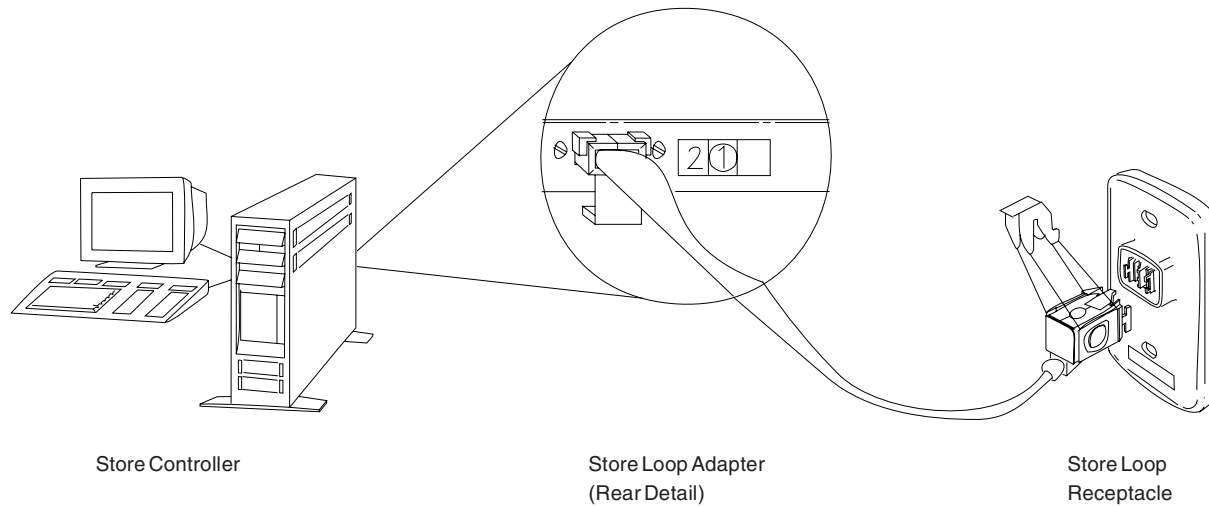
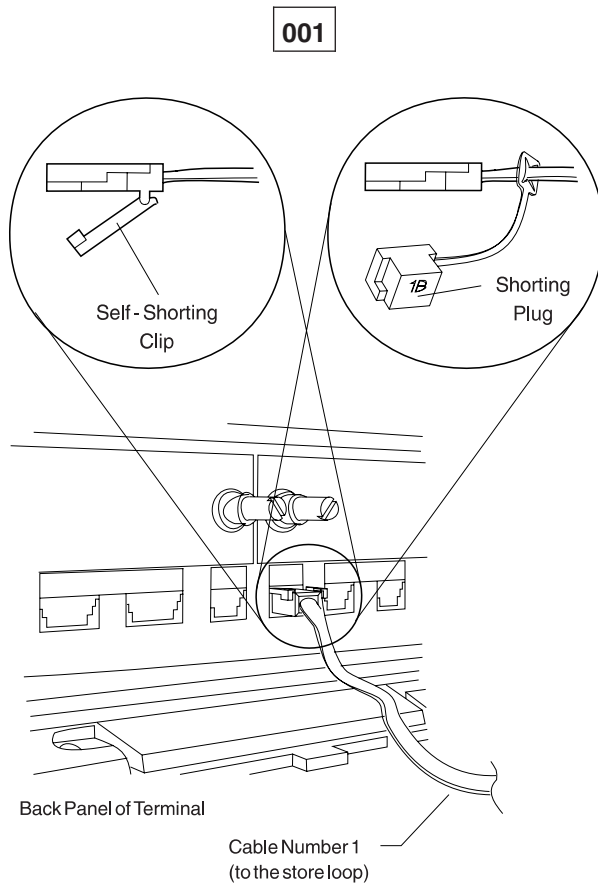

Figure 33. Store Controller Store Loop Adapter and Store Loop Receptacle
Figure 34. Mod1 Terminal Store Loop Cable 1 and Shorting Plug 1B
- Ensure the store loop cable is plugged into the loop cable socket on the Mod1 terminal displaying message W003 and that the other end of the cable is plugged into the store loop receptacle. See Figure 33 on page 497 and Figure 34 on page 497.
- Attach shorting plug 1B to the terminal-end of the cable. See Figure 34 on page 497.